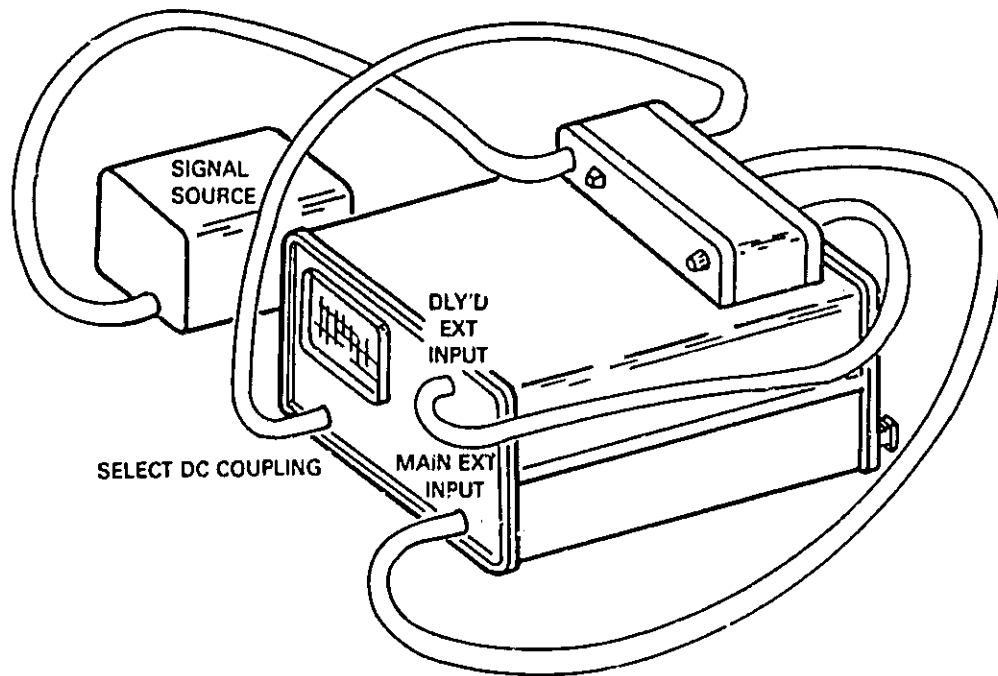

Figure 2. TV Sync Hookup
a. Connect TV signal generator to TV INPUT 75Ω make the following connections as shown in figure 2 and set oscilloscope controls as follows: